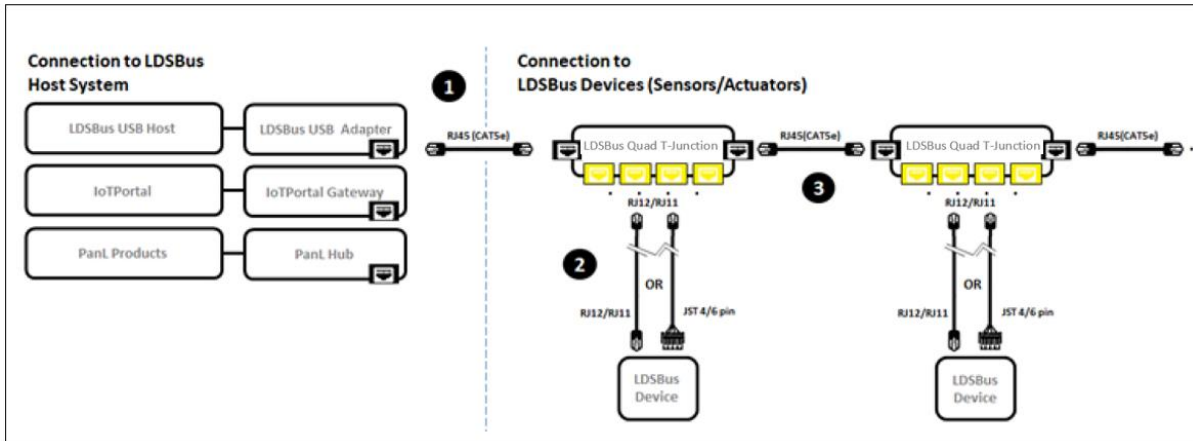

Figure 2 - LDSBus Trailing Edge Light Dimmer - Connection Diagram
Figure 2 illustrates the connection of the LDSBus Trailing Edge Light Dimmer (LDSBus Device) to the LDSBus. Please visit <https://brtsys.com/resources> to view the full device application, setup and installation guides.
2. Connect the configured LDSBus Trailing Edge Light Dimmer to the LDSBus Quad T-Junction as shown in Figure 2.
3. If there is more than one LDSBus Quad T-Junction, chain them together as shown in Figure 2.